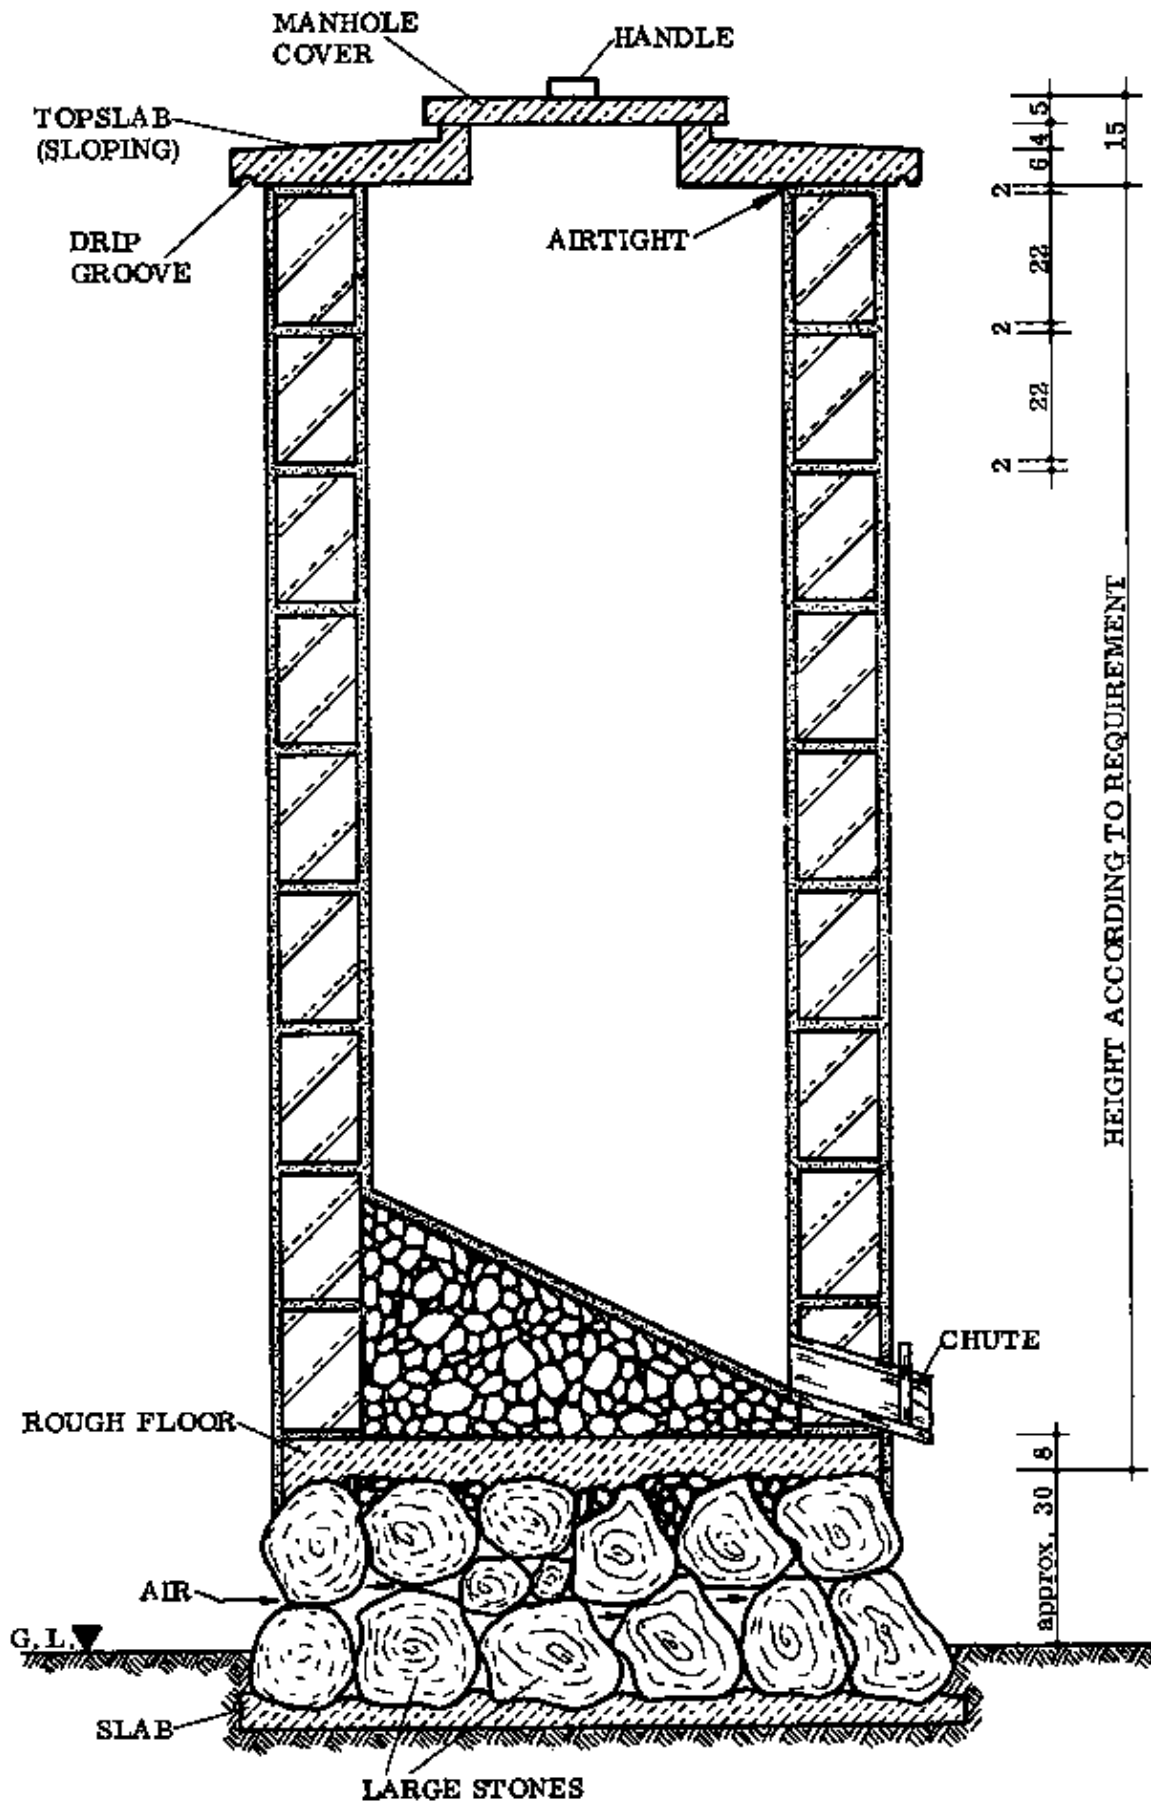

Fig. 1
Cast the topslab before starting to construct the rest of the silo, so that it will be cured and ready to use when you need it. Construct a frame for casting the slab, with an inner frame for the manhole (Fig. 1, next page). Reinforce the slab with some rods. For measurements, refer to the Drawing Book, page 118. Note that the top of the slab slopes to the outside. Also note that the edge of the slab is fitted with a groove underneath so that rainwater drips down instead of running back under the slab (Fig. 1, left).
Also make a frame for the manhole cover and cast this piece. Use a piece of iron rod set in the concrete for a handle (Fig. 1).
– **FOUNDATION AND FOOTING:** Dig out the top soil and make a concrete slab if needed (if the soil is soft). The slab will be 125 cm in diameter and about 6 cm thick. The footing is made of large stones set on the slab or on the ground. The stones should be placed in such a way that air can circulate freely between them and they should be built to a height of 30 cm above ground level. On top of and in between the large stones, small stones are used to fill in the gaps to form a surface for the floor to rest upon (Fig. 1).
– **FLOOR:** The floor is poured directly onto the footing. This floor is a working surface only and the top should be left rough so as to give a good grip to the slanting floor (Fig. 1, previous page).
– **FIRST COURSE:** Place the chute in position. The chute is a kind of open-ended box made from wood, with a sliding closure that can be locked (Fig. 1, previous page). Now proceed to lay the first blocks. The section after this one describes the procedure for laying blocks in a round structure.